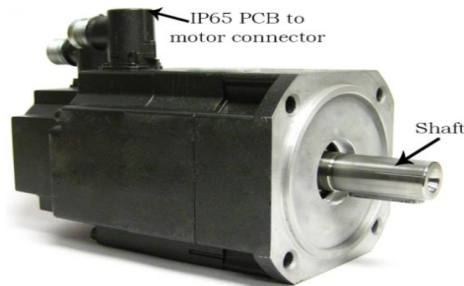

Fig. 3.49 Servomotor
C. **Servomotor** – It is a rotary actuator or linear actuator that allows for precise control of angular or linear position, velocity, and acceleration. It consists of a suitable motor coupled to a sensor for position feedback. A servo motor is used in robots and in those places, where one requires accurate rotation of the motor shaft. Figure 3.49 illustrates the typical servomotor